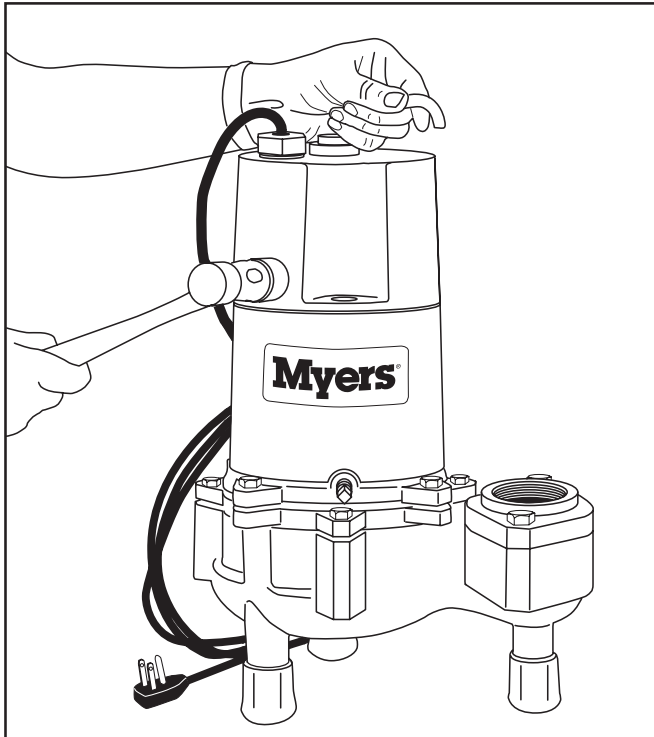

Fig. 9
2. Remove bolts from capacitor housing and bump housing with plastic hammer to loosen. Fig. 9